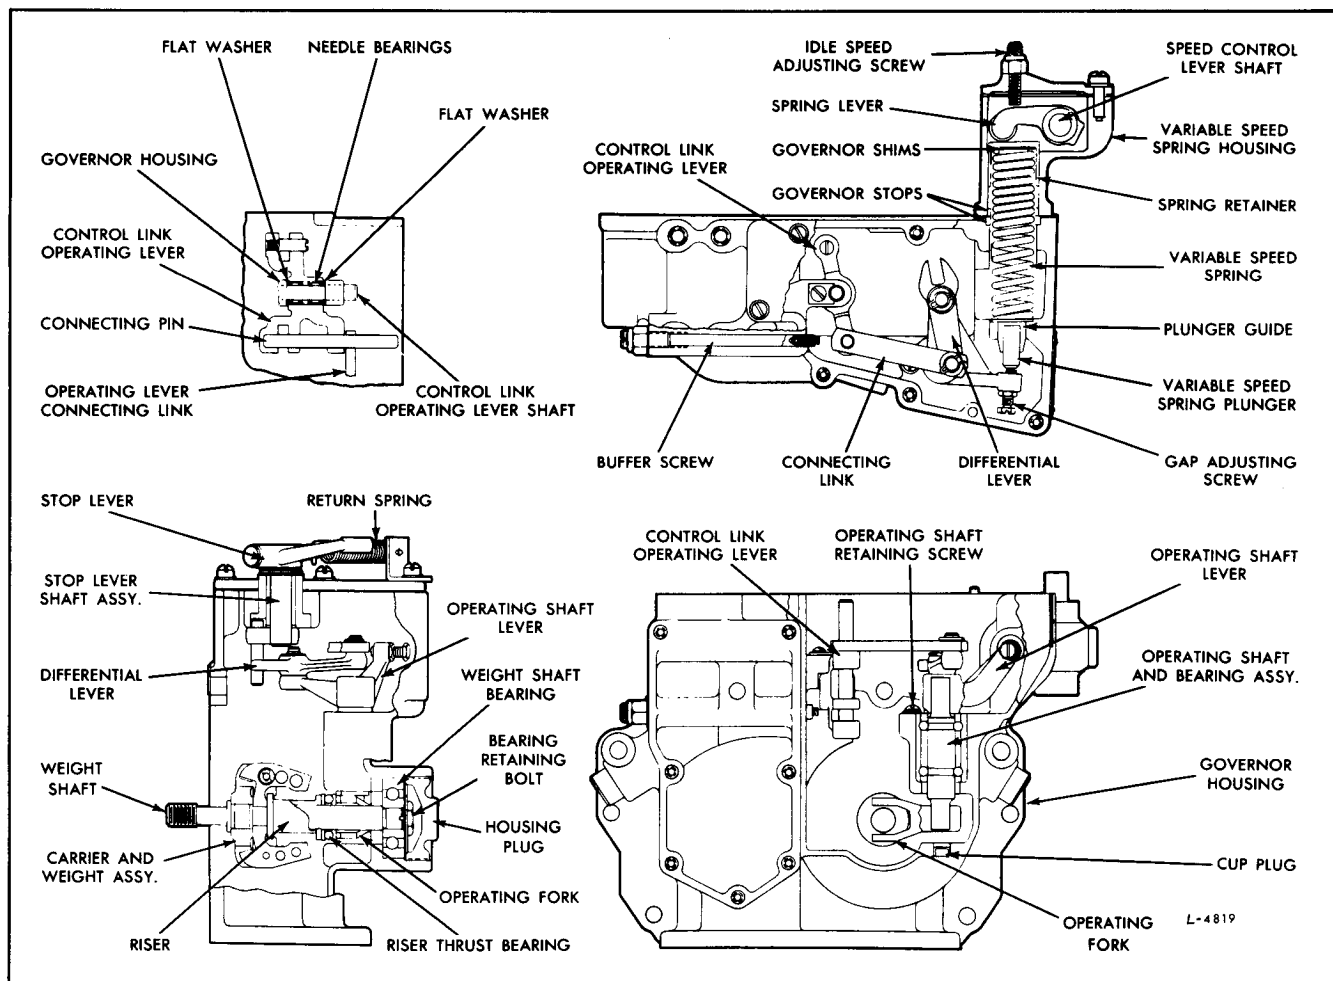

Fig. 1 - Cross Sections of Variable Speed Mechanical Governor
The variable speed mechanical governor, illustrated in Fig. 1, performs three functions:
The centrifugal force of the revolving governor weights is converted into linear motion which is transmitted through the riser and operating shaft to the operating shaft lever (Fig. 1). One end of the operating shaft lever bears against the variable speed spring plunger, while the other end provides a changing fulcrum on which the differential lever pivots.
housing, refer to Fig. 1 and disassemble the cover as follows:
- b. Remove the governor weight housing plug and gasket (Fig. 1).